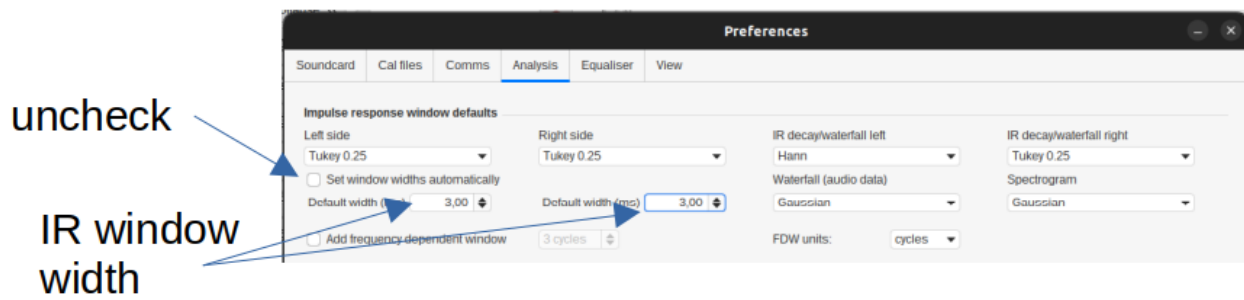

Figure 3: REW preferences
- Before measurements, for all with the same values in “Preferences” > “Preferences” > “Analysis” tab > uncheck the “Set window width automatically” box and enter the values just below. It supposes a first measurement was done. **See figure 3.**